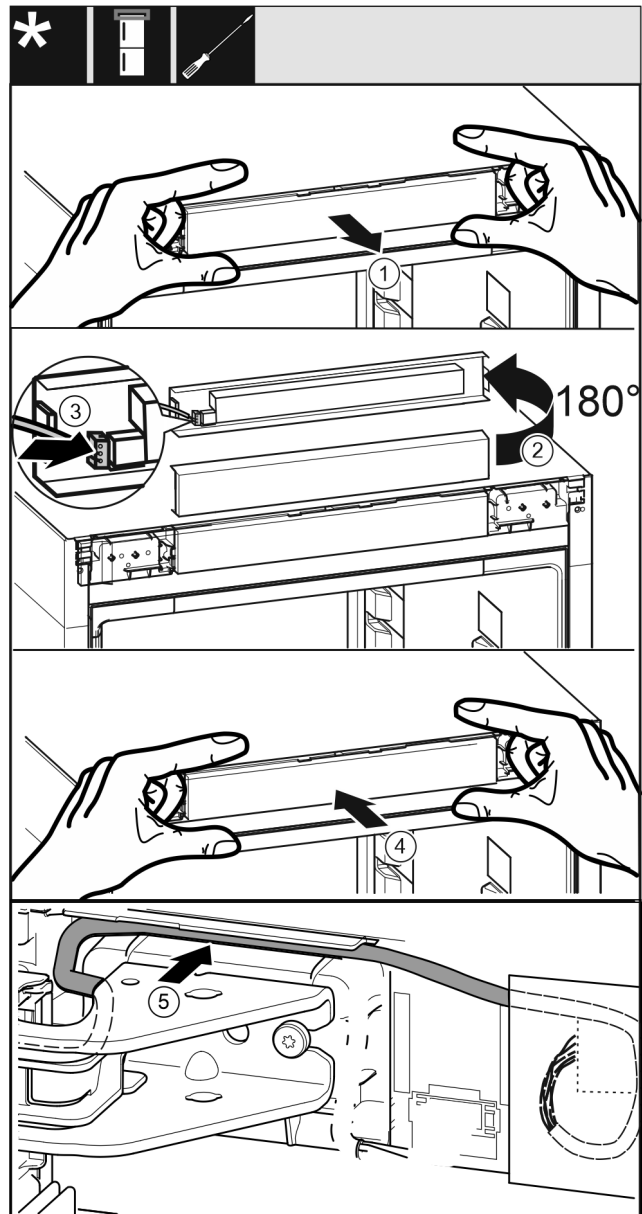

Fig. 48
- Remove the control panel trim Fig. 48 (1) carefully.
- ▶ Turn the control panel trim *Fig. 48 (2)* up by 180°.
- ▶ Engage the plug *Fig. 48 (3)* on the control panel trim.
- ▶ Re-engage the control panel trim *Fig. 48 (4)* on the appliance.
- ▶ Lay the cable *Fig. 48 (5)* carefully in the guide above the top swap bearing block.